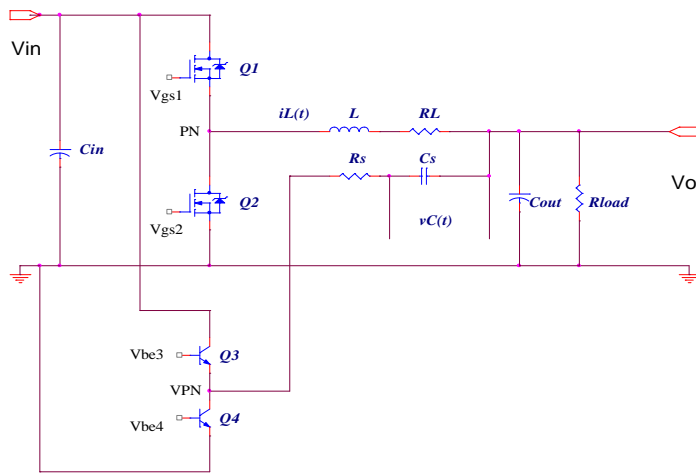

Fig.1 The Basic Structure of Combi-Sense.
The basic structure of the Combi-Sense is shown in Fig.1. Where  $R_L$  is the equivalent resistance of the output inductor. The added  $R_s$  and  $C_s$  form the RC branch in “parallel” with the output inductor for inductor current sensing. This branch works with a small signal totem pole (Q3 and Q4) integrated in SC4510 in order to improve the signal-to-noise ratio. The base signals Vbe3 and Vbe4 are designed to closely follow the gate signals Vgs1 and Vgs2, respectively. Ideally, the leading and falling edges of the Virtual Phase Node (VPN) follow that of the Phase Node (PH) when Q1~Q4 switch in perfect synchronism.
When Q1/Q3 turn ON and Q2/Q4 turn OFF, the equivalent circuit of Fig.1 is shown in Fig. 2a). Where,  $R_{ds1}$  is the on-resistance of the top MOSFET. The two branches, consisting of  $\{(R_{ds1}+R_L), L\}$  and  $\{R_s, C_s\}$ , are in parallel. The DC voltage drop  $(R_{ds1}+R_L)I_o$  equals  $V_{cs}$ . In this way, the output current is sensed from  $V_{cs}$  when  $(R_{ds1}+R_L)$  is known.
When Q1/Q3 turn OFF and Q2/Q4 turn ON, the equivalent circuit of Fig.1 becomes the sub-circuit as shown in Fig. 2b). Where  $R_{ds2}$  is the channel resistance of the bottom MOSFET. In this case, the branch  $\{R_s, C_s\}$  is in parallel with  $\{(R_{ds2}+R_L), L\}$  and  $V_{cs}=(R_{ds2}+R_L)I_o$ .
In SC4510, the current limiting is performed on cycle-by-cycle basis. When the voltage difference between CS+ and CS- exceeds 65 mV, the top MOSFET duty ratio is clipped in order to limit the output source current. Similarly, when the voltage difference between CS- and CS+ exceeds 113 mV, the bottom MOSFET duty ratio is clipped in order to limit the sink current. For the configuration in Fig.1, the convertor output current limit is set around